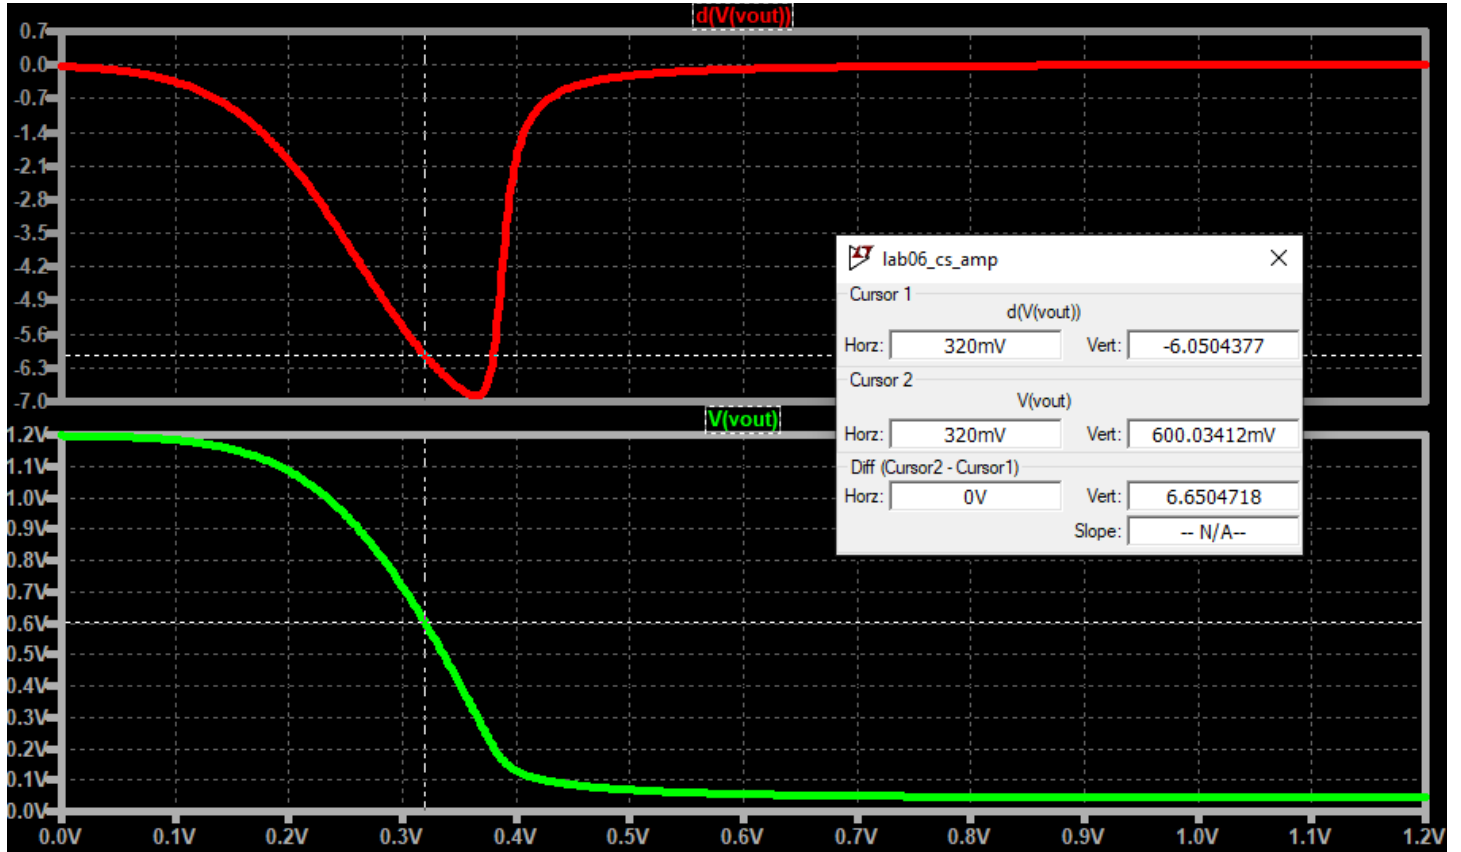

Figure 2.15 CS amplifier simulation with $W = 28.5 \mu\text{m}$, $L = 1.5 \mu\text{m}$, and $R_L = 13.882 \text{ k}\Omega$
Plug the W , L , V_{GS} , and R_L into the “lab06_cs_amp.asc” schematic and re-extract the output gain. Run the simulation and you should get Figure 2.15. Great!
- Be sure to provide your final gain plot similar to Figure 2.15.